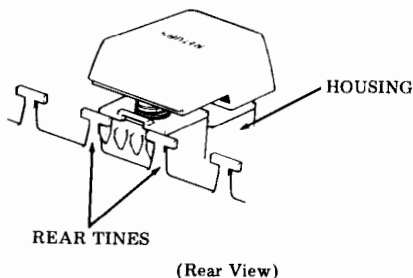

Fig. 7—Rear Tine Disengagement
- (1) Remove keys BACKSPACE, OVERLINE, GS, US, LINE FEED, SHIFT, and QUOTES that surround the RETURN key using 346260 tool.
- (2) Disengage the rear tines from housing with a small screwdriver while pulling the RETURN key up and toward the front (Fig. 7).